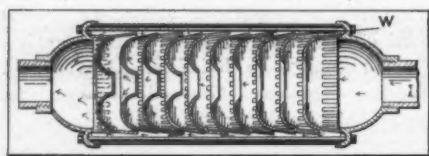
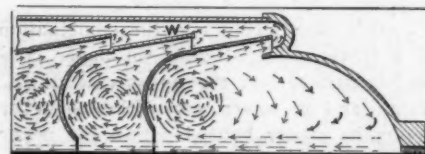

Fig. 4—Miller multi-chamber muffler
Fig. 5—Part section of Miller muffler
3. This jack (Fig. 4) contains a standard in which a vertical lifting screw may be raised or lowered. A worm wheel is rigidly secured to the screw. A removable hanger is adapted to be mounted on the lifting cylinder or standard, and it carries a horizontally disposed worm which is operated by a crankshaft. The hanger also carries a friction device adapted to engage the crankshaft when the shaft is rotated in one direction.
4. The carbureter (Fig. 5) to which this patent refers contains a main reservoir, a mixing chamber adapted to communicate therewith, a fluid inlet to the reservoir and a mixture outlet from the mixing chamber. An auxiliary reservoir is provided which has communications with the main reservoir and the mixing chamber; the auxiliary reservoir has an air inlet adapted to discharge air beneath the fluid level therein. There is provided a main air valve and a port of exterior of the air valve adapted
The Miller muffler, shown in Figs. 4 and 5, is of the multi-chamber type and of cylindrical form. The exhaust gases of the motor enter on one end and after passing through eleven separate
chambers leave at the other. The chambers are all of the same diameter, and stamped of steel in the shape of cups. As Fig. 4 shows, the entrance of each individual chamber is larger than its exit, so that part of the gases entering a chamber is bound to strike the rounded portion of the opposite wall, which is highly polished and imparts to the gases a whirling motion. This principle of operation is illustrated in Fig. 5, and the construction of the chambers forces the gases to leave them through the lateral passages and flow to the muffler outlet along the wall W (Fig. 4), because the central chamber outlets do not permit of passing of all the exhaust through them.